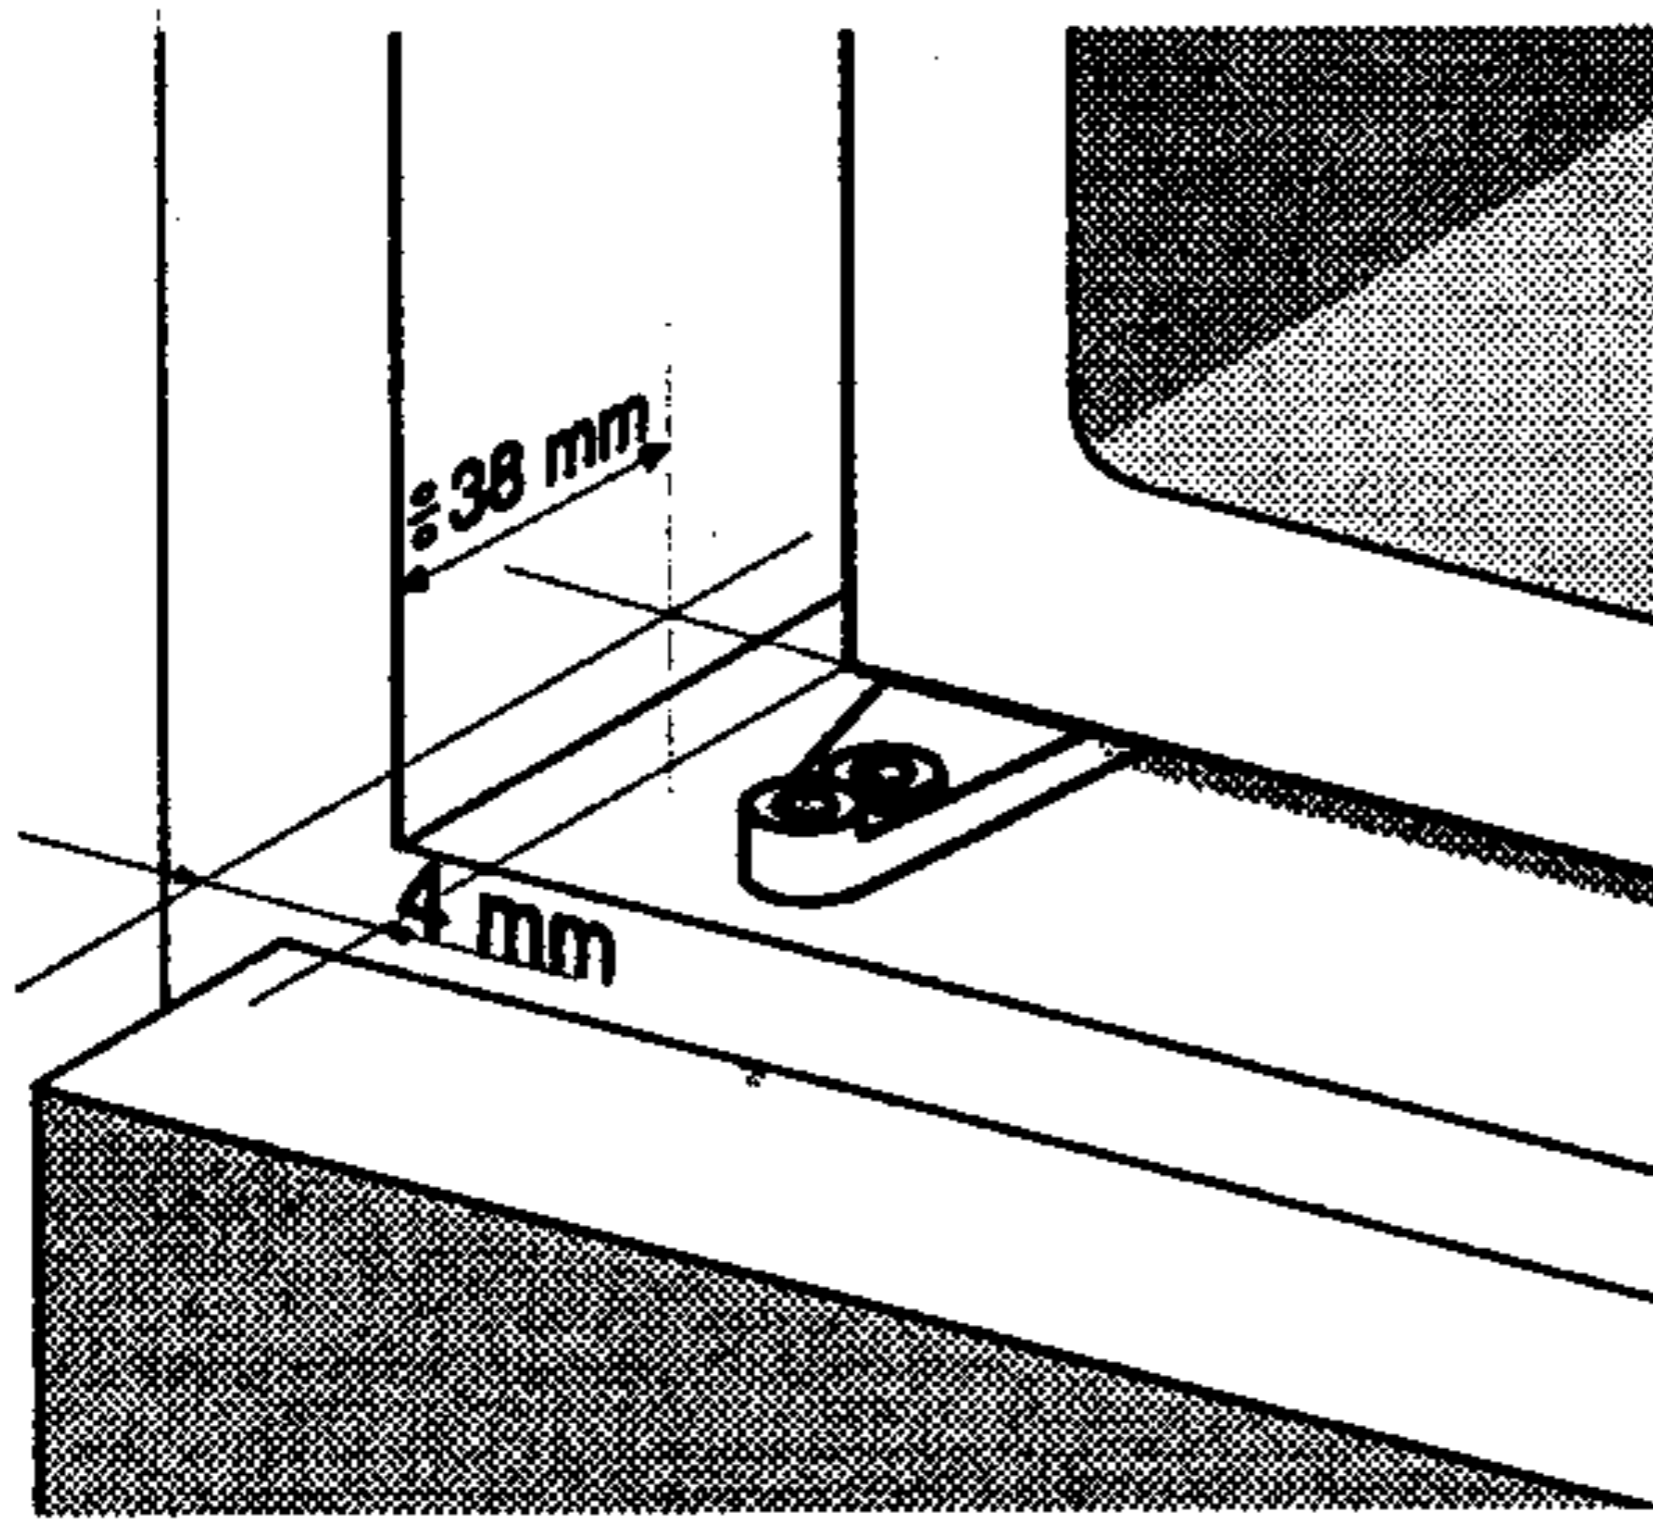

Fig. 1
- Push the appliance 38 mm into the kitchen unit and allow at least 4 mm free space on both sides between the appliance and the side walls of the kitchen unit (Fig. 1).